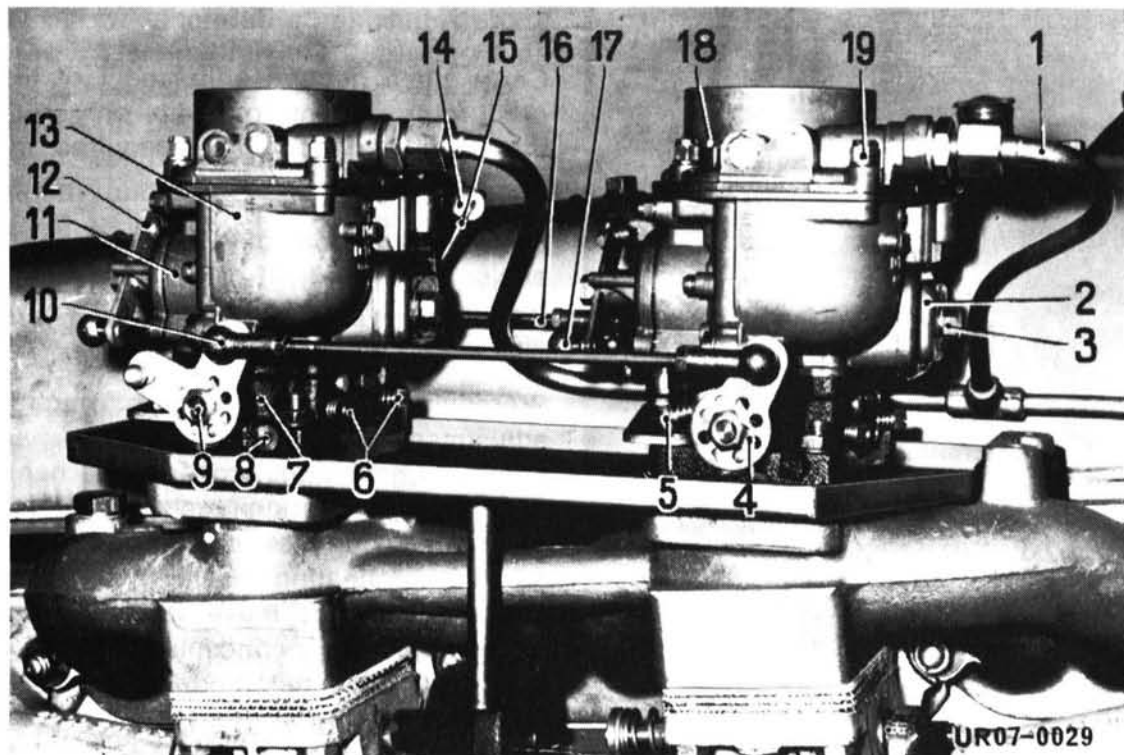

Figure 49 Carburetor system of M 130 engine
1 Remove intake manifold. Disengage accelerator pedal control linkage. In case of two carburetors, disengage connection linkage (10) figure 49.
11 Adjust length of connecting rod (10), figure 49 and reengage again.